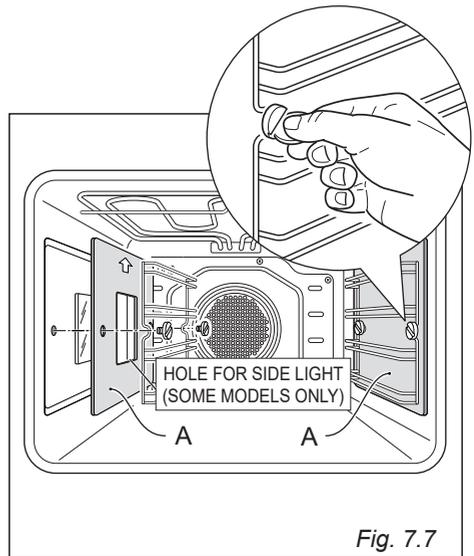

Fig. 7.7
- Assemble the wire racks to the oven walls using the 2 screws (fig. 7.7).
In the models with catalytic panels supplied, interpose the catalytic panels "A" with the arrow up (fig. 7.7).
- Screw the side racks onto the oven wall (interposing the catalytic panels if supplied) (fig. 7.7).